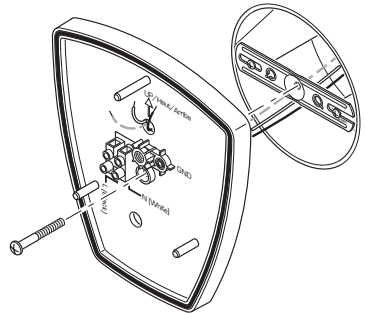

Figure 3
3. Route the junction box wires through a hole in the 1-2-Ëasy Connect™ (see Figure 3).
4. Place the 1-2-Ëasy Connect™ against the junction box (see Figure 3).
5. Insert the small mounting bolt through the 1-2-Ëasy Connect™ hole located below the threaded hole. Thread the bolt into the center hole of the mounting bracket (see Figure 3). Tighten bolt securely.